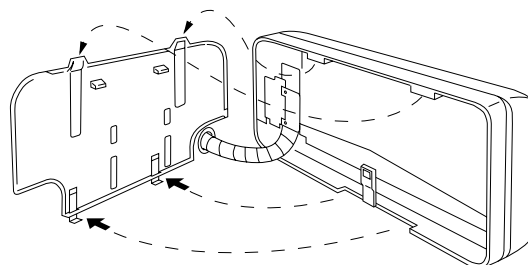

Fig. 26
- (2) Push the wiring, refrigerant tubing, and drain hose through the hole in the wall. Adjust the indoor unit so it is securely seated on the rear panel. (Fig. 26)
- (3) Carefully bend the tubing (if necessary) to run along the wall in the direction of the outdoor unit and then tape as far as the fittings. The drain hose should come straight down the wall to a point where water runoff won't stain the wall.